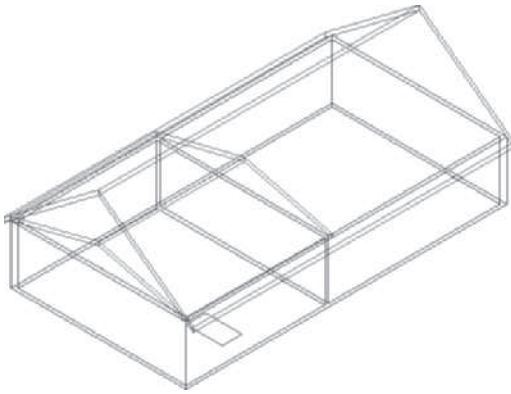

FIGURE 8.11 Slabs mitered
9. Select **SW Isometric** from the View Cube to view the slabs mitered as shown in Figure 8.11.